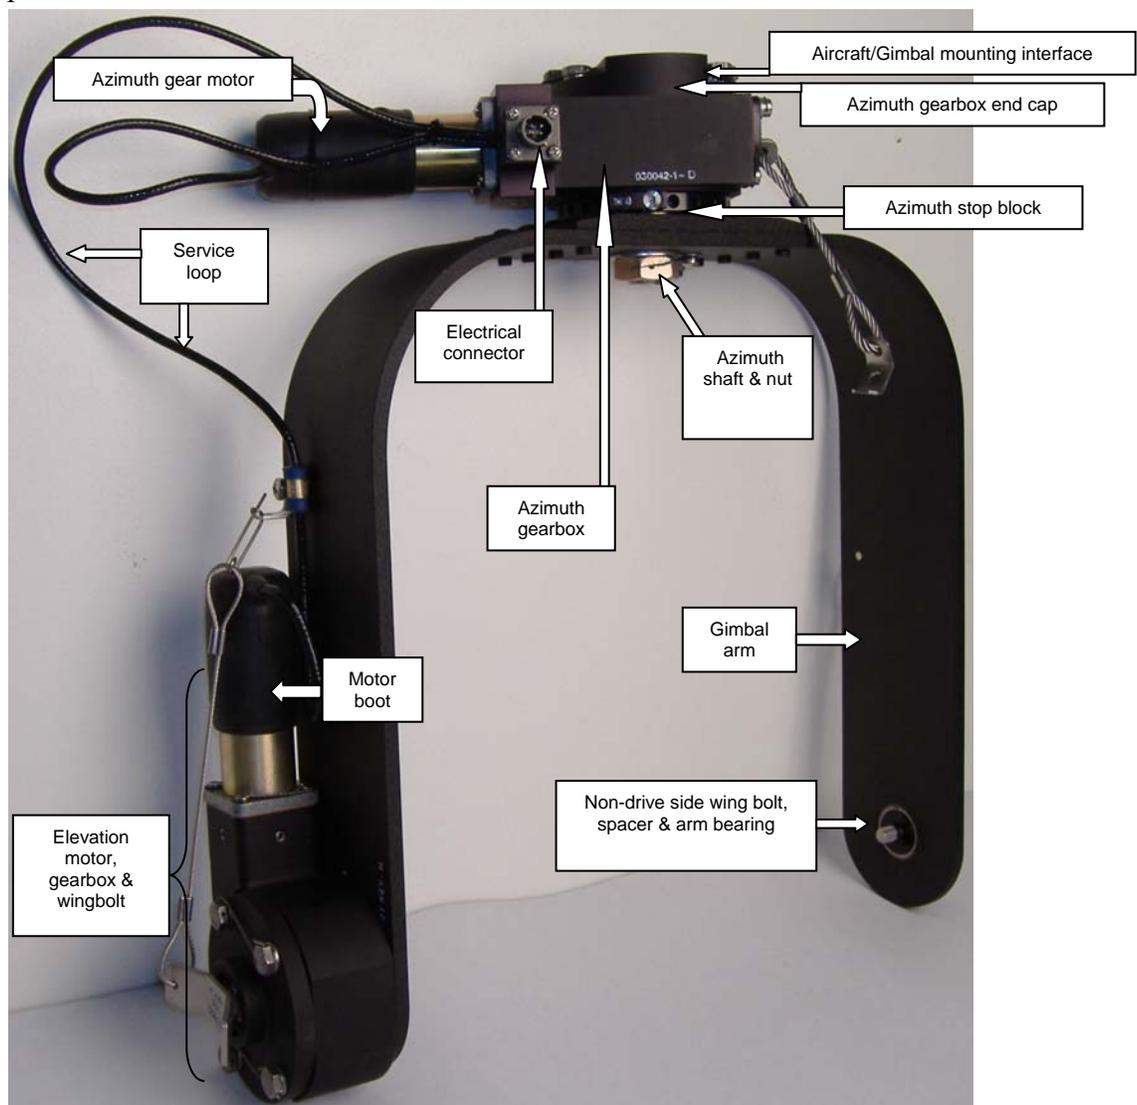
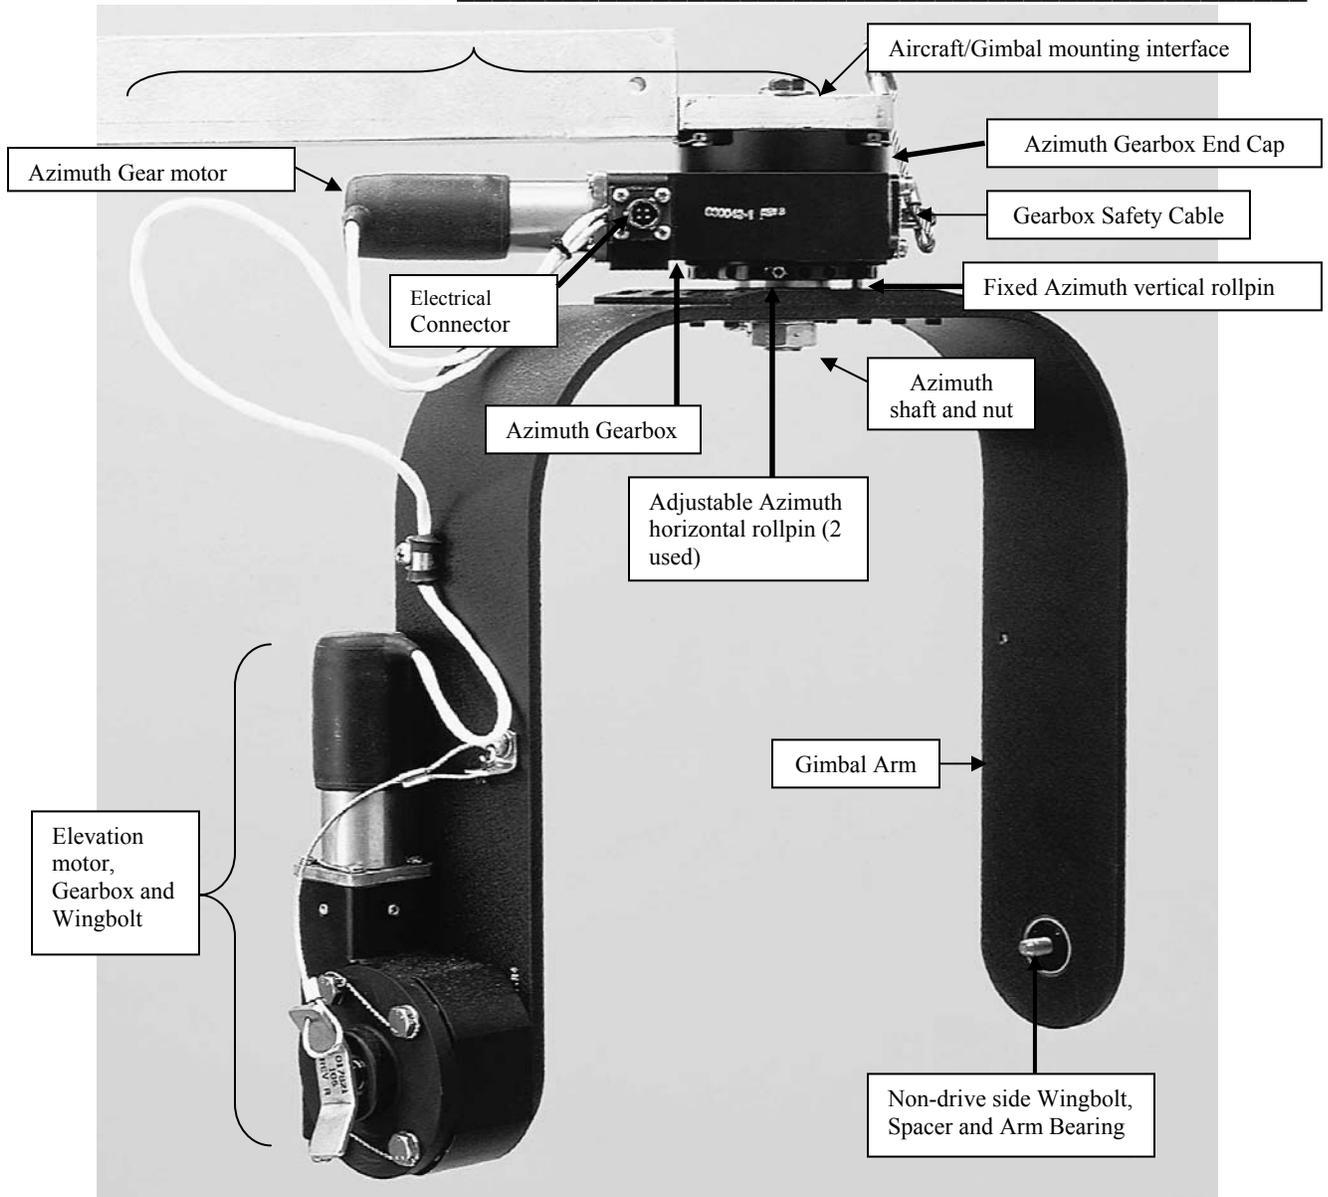

Figure 8 Gimbal Assembly (Current Configuration)
Figure 9 Gimbal Assembly (Old Configuration)
The Gimbal assembly (Figure 8) has a U-shaped yoke (the Gimbal arm) made of ¼" x 3" high-strength aluminum or steel alloy. When fully assembled, it serves the following functions:
- The current configuration, which was introduced in August 2004 (Figure 8), has two adjustable stop blocks attached to the azimuth ring by two shoulder bolts. It also has a high strength, stationary shoulder bolt mounted on the doubler (the top of the yoke, where its thickness has been doubled). In Figure 8, the following items are visible (from top to bottom): aircraft/Gimbal mounting interface; azimuth gearbox end cap (bolted to mounting bracket); azimuth gear motor; azimuth stop block; gearbox safety cable; service loop; electrical connector; azimuth shaft and nut; azimuth gearbox; motor boot; elevation motor, gearbox, and wing bolt; non-drive side wing bolt, spacer, and arm bearing.
- The old configuration (Figure 9) has fixed azimuth horizontal roll pins that are pressed into radiating holes on the outer edge of the gearbox adapter. It also has a vertical roll pin mounted on top of the doubler. In Figure 9, the following items are visible (from top to bottom): mounting bracket; azimuth gear motor; aircraft/Gimbal mounting interface; azimuth gearbox end cap (bolted to mounting bracket); gearbox safety cable; service loop; electrical connector; azimuth gearbox; azimuth shaft and nut; fixed azimuth horizontal roll pin (two used); motor boot; elevation motor, gearbox, and wing bolt; non-drive side wing bolt, spacer, and arm bearing.
- Various speed and weight restrictions: (1) a light weight aluminum version for slow speed aircraft and (2) a heavier, high strength steel version for high speed aircraft
- Variations in light: (1) a basic, white light version and (2) a remote controlled, In Flight Change Over (IFCO) version that accommodates a filter
- On the non-drive side of the Gimbal arm (the right hand side of Figure 8 or Figure 9) you can see the threaded portion of the wing bolt projecting outward from the spacer and arm bearing. This portion of the wing bolt screws into one of the Searchlight's mounting bosses and extends through the arm bearing.